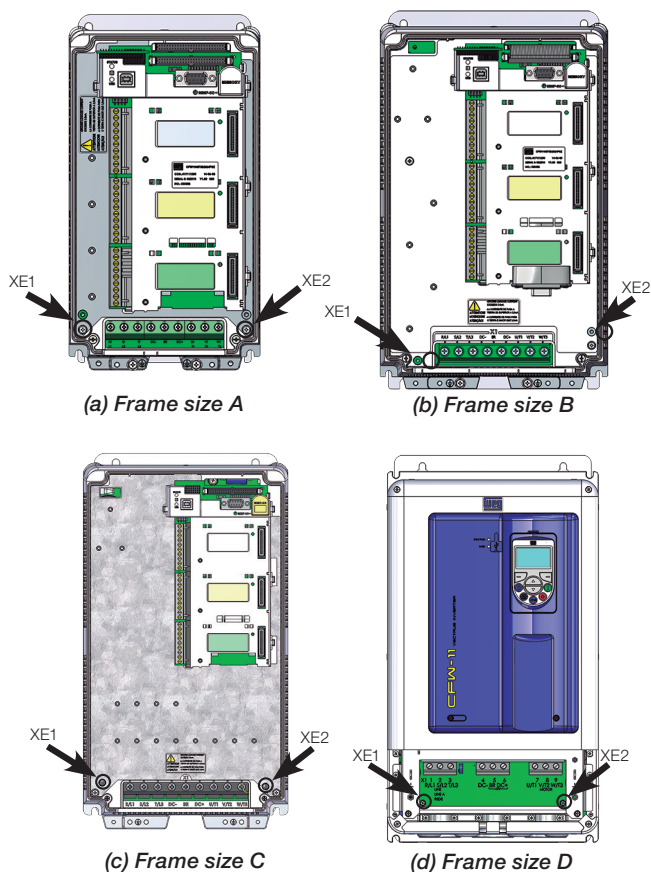

Figure 19 (a) to (d): Frame size A to D - Location of Grounding Screws - Remove for IT networks or delta-grounded
- The power supply that feeds the inverter must have a grounded neutral. For IT networks some internal components must be disconnected as shown in figure 19 to 22.
For using models with internal RFI filters in IT networks follow the instructions on Figure 19 to 22.